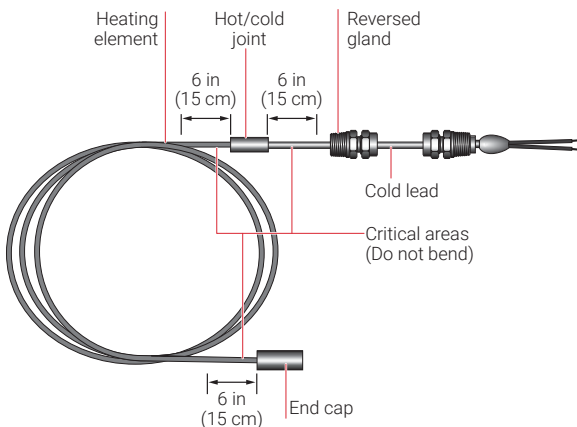

Figure 24: Typical tubular heater
- Do not bend within 6 in (15 cm) of the hot/cold joint or the end cap (see Figure 24).